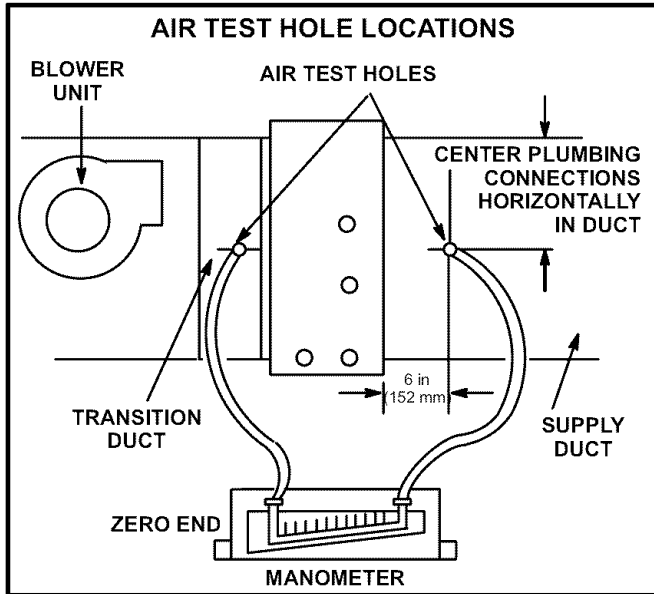

FIGURE 7
- 1- Drill test holes in supply duct to read pressure drop across CH23 coil. See figure 7.